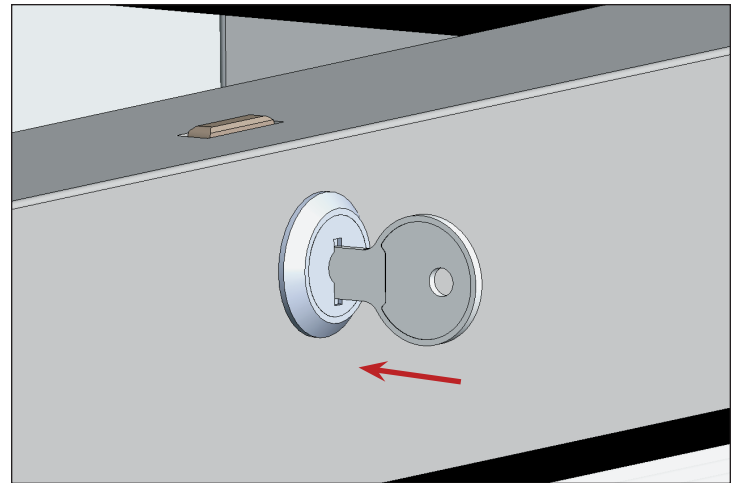

Fig. 1. Insert the master key into the lock cylinder.
1. Insert the master key (included with replacement lock kit) into the lock cylinder. See fig. 1.